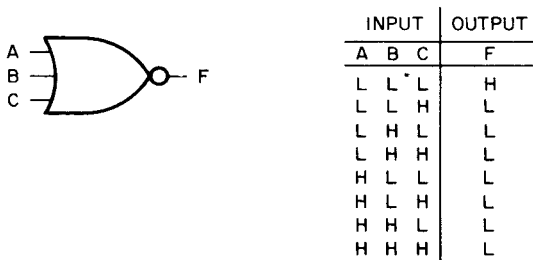

Figure 8-4 Symbol, NOR Function
- b. **NOR**—The symbol in Figure 8-4 represents one version of the NOR function. The output (F) is low if one or more of the inputs (A, B, and C) are high.